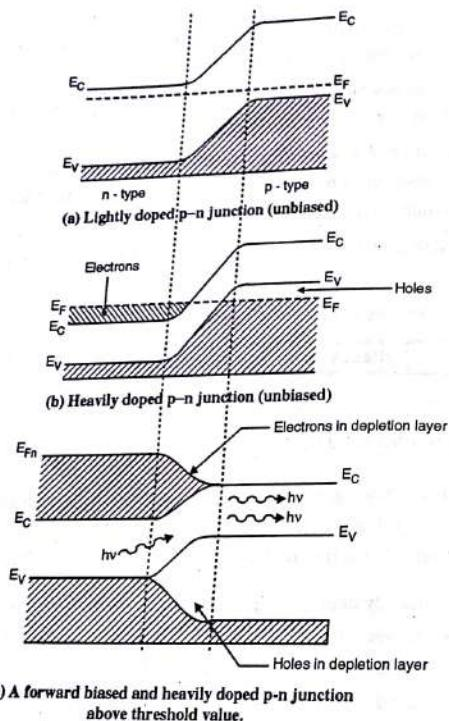

Fig. 4.13.1 : Energy bands in semiconductor laser
- Fig. 4.13.1(a) shows a scheme of an ordinary p-n junction semiconductor. The valence band in p-region has holes and conduction band in n-region has free electrons. This is the condition when semiconductor is lightly doped.
- When it is heavily doped, we get some electrons shifted to conduction band and holes are seen in valence bands. But this does not create population inversion at all (Fig. 4.13.1(b)). The Fermi level on n-side is found on conduction band and on p-side it is found on valence band but it is in equilibrium at both sides.
- When a forward biased is applied, energy level diagram gets altered as shown in Fig. 4.13.1(c). Electrons from conduction band of n-type and holes from valence band of p-type are injected into depletion layer.